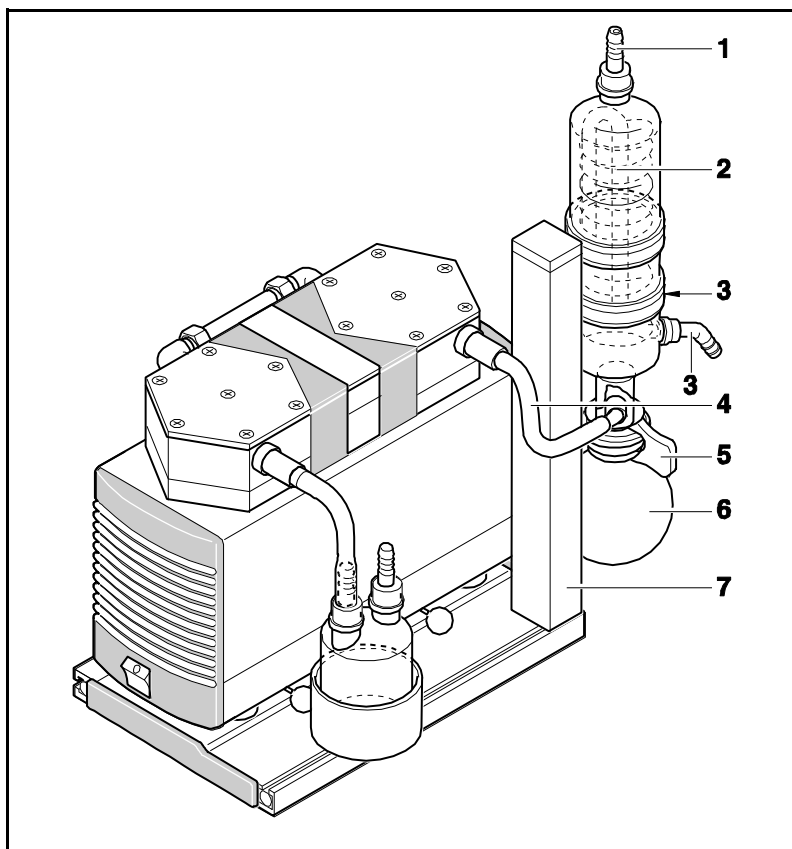

Fig. 7: High performance condenser (shown: LABOPORT system SH with pump UN840.3FTP as example)
1. Slide the support of high performance condenser (see fig. 7/7) into the baseplate's upward-pointing slotted bar.